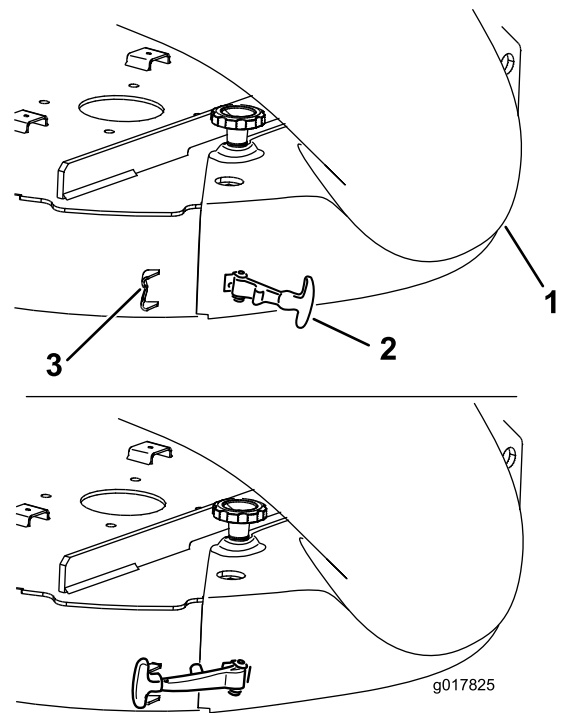

Figure 27
6. Hook the flexible latch on the chute to the retaining clasp welded on the mower deck to the rear of the opening (Figure 27).